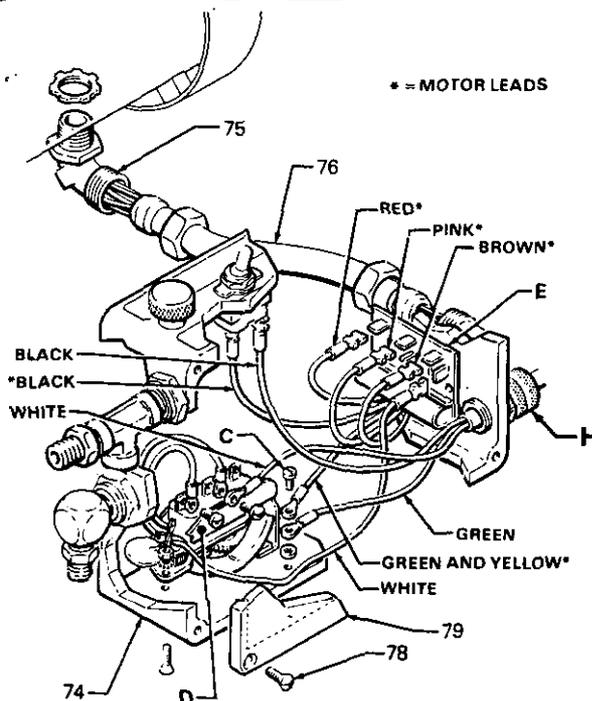

Fig 10
Remove the screws (8), lockwashers (9), nuts (18), and pressure control (74) from the frame. Remove the screws (78) and cover (79) from the pressure control (74). See Fig 10.
Disconnect the red, pink and brown motor leads from the circuit board (81). Disconnect the green and yellow motor leads from the grounding screw (C), and the black motor leads from the top of the pressure control (D). See Fig 10.
Unscrew the nut on the end of the conduit (76) from the connector (75). See Fig 10. Pull the pressure control (74) away from the conduit while carefully guiding the wires through the connector (75).
Loosen the knurled part of the power cord strain relief (H), and unscrew it from the pressure control. Slide the strain relief up on the power cord to provide clearance, and unscrew the conduit connector (75). See Fig 10.
If only the circuit board (81) needs to be replaced in the pressure control, remove the screws (78) and the front cover (79). See Fig 10. Pull the board out carefully, just far enough to reach the wire terminals. Unsnap the wires and finish removing the board.
Position the new card at the control so the wire connectors are at the top. Following the color coded diagram in Fig 10, snap the wires onto the board. Carefully guide the wires back into the control, making sure they don't catch on anything, then slide the new board into place. Check the pressure control calibration. See page 19.